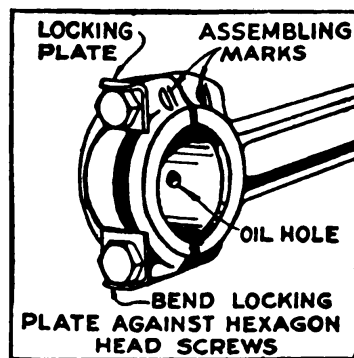

FIG. 22. CONNECTING ROD
and replace lock rings. The connecting rod is assembled to crankshaft with the oil hole in the lower bearing toward the magneto side (Fig. 22). The assembly marks on the connecting rod and bearing cap must be on the same side. Make sure that locking plates (171) are in place, and that cap screws are tight. Reassemble the engine by reversing the procedure for taking it apart.
i. Oil leaks.—If oil leaks from the magneto crankshaft bearing (147), remove the base (32) from the engine. Then remove the oil return valve (195) by unscrewing it from the magneto back plate (121). Clean or flush with Diesel oil and blow dirt particles from under the small disc. If the disc is damaged, replace with a new one.